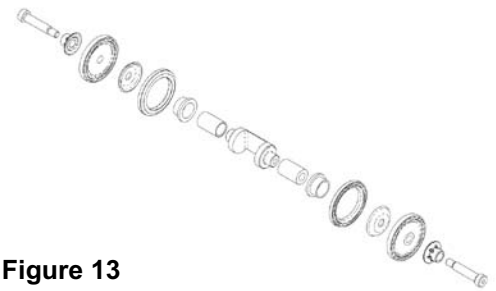

Figure 13
1. Diaphragm / Connecting Rod Assembly: (Fig. 13)